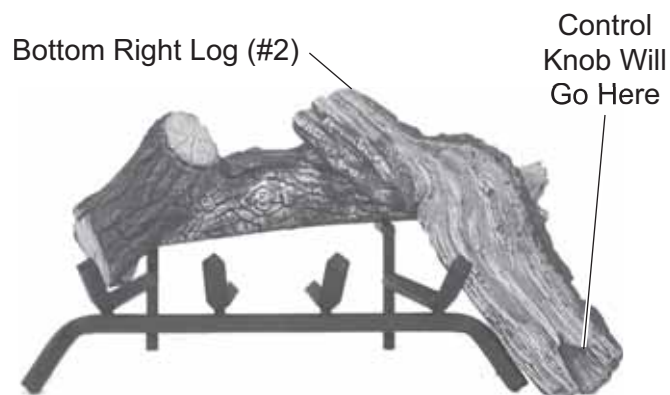

Figure 125 - Placing Bottom Right Log (#2)
3. Place Bottom Right Log #2 along outside of grate. Rest end on Rear Log #1. Control knob will stick through bottom notch of log. *See Figure 125.*